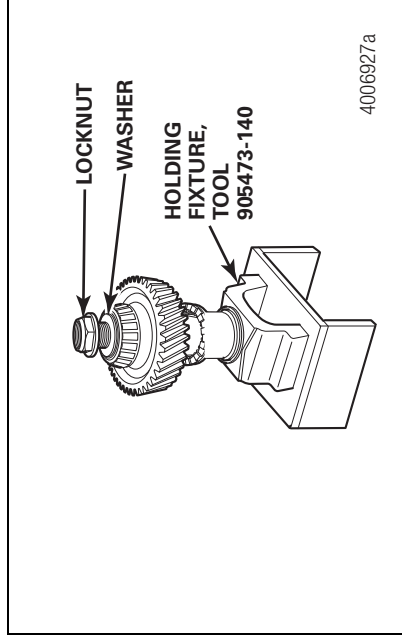

Figure 6.5
11. Install the washer and the locknut onto the shaft. Tighten the locknut to 700-900 lb-ft (949-1220 N•m). Figure 6.5.